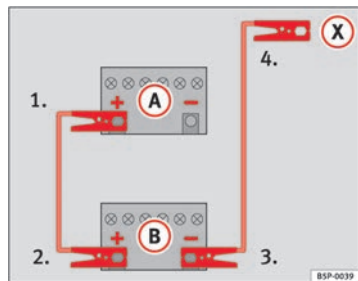

Fig. 243 How to connect the jump leads
⇒ fig. 243 (A) shows the flat battery and (B) the charged battery.
- 1. Connect one end of the red jump lead to the positive ⇒ fig. 243 (+) terminal of the vehicle with the flat battery ⇒ ⚠.
- 4. Connect the other end of the black jump lead (X) to a solid metal component which is bolted on to the engine block, or onto the engine block itself of the vehicle with the flat battery. Do not connect it to a point near the battery ⇒ ⚠.